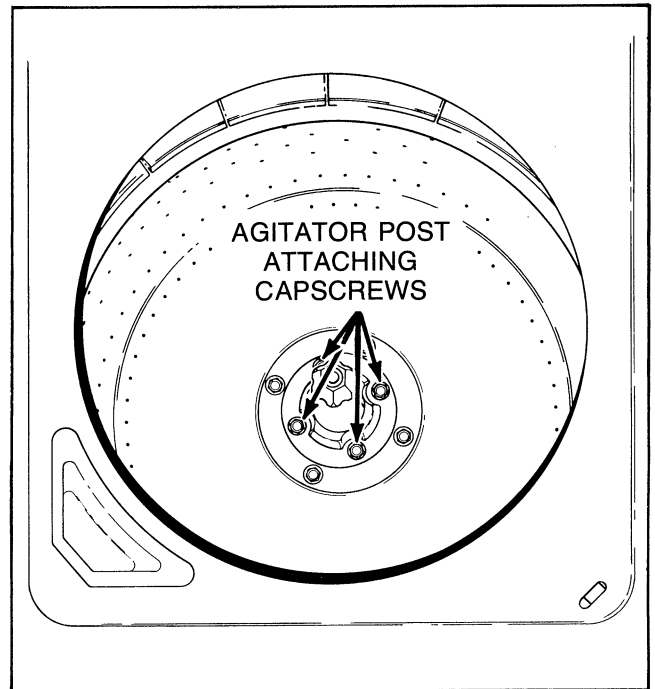

Figure 11
- Remove four cap screws holding agitator post assembly to washtub hub, *Figure 11*, then lift assembly out of washtub.